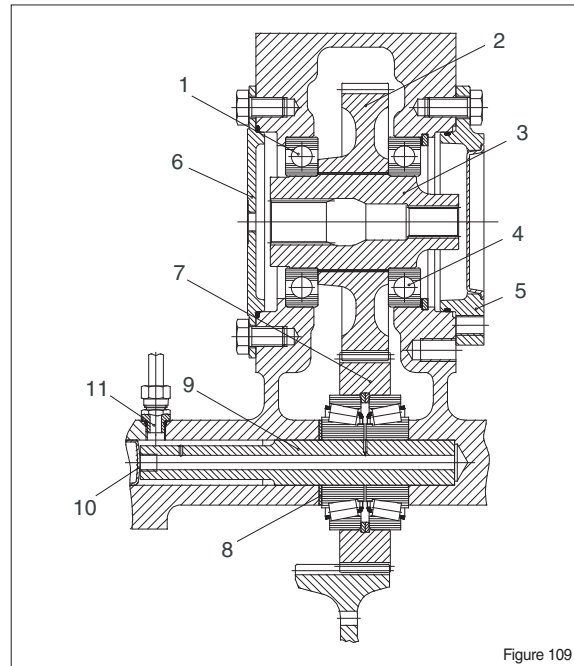

Figure 109
- (2) Position spur gear (2).
- ※ Pay attention to the installation position, see sketch (figure 109).
(4) Align the spur gear centrally and insert the driver (3) until contact.
- ※ Pay attention to the installation position, also see sketch (figure 109).